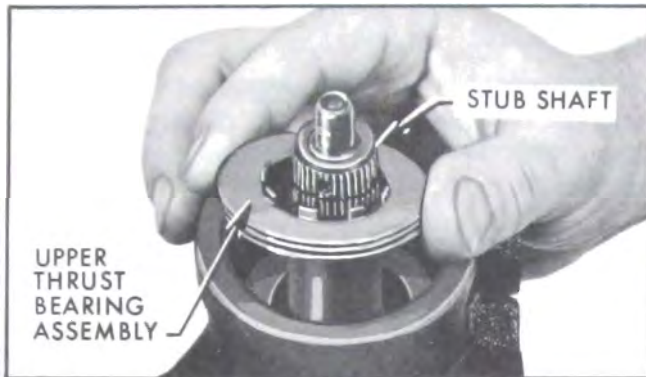

Figure 8-56—Installing Upper Thrust Bearing Assembly
2. Install upper thrust bearing assembly on valve assembly with tangs of race pointing away from valve. See Figure 8-56.